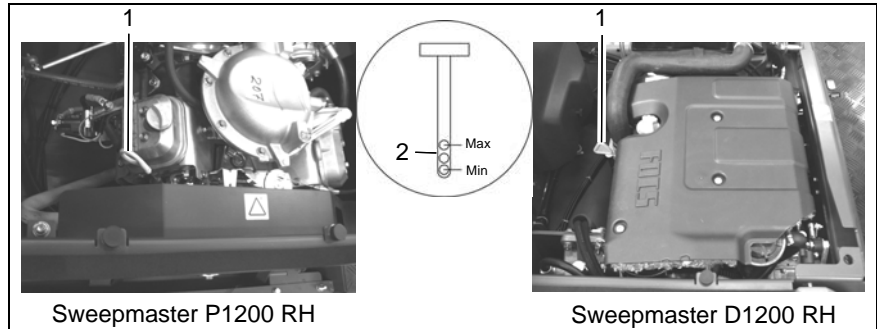

Fig.17
- Pull plug (Fig. 17/1) with dipstick.
- Pull dipstick(Fig. 17/1).
- Wipe dipstick (Fig. 17/1) and push into opening until stop and pull it again.
- Oil level has to be mark between minimum and maximum (Fig. 17/2), refill engine oil if required.
- Re-insert dipstick(Fig. 17/1).